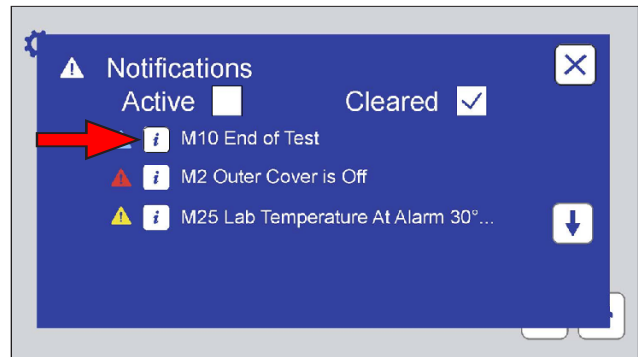
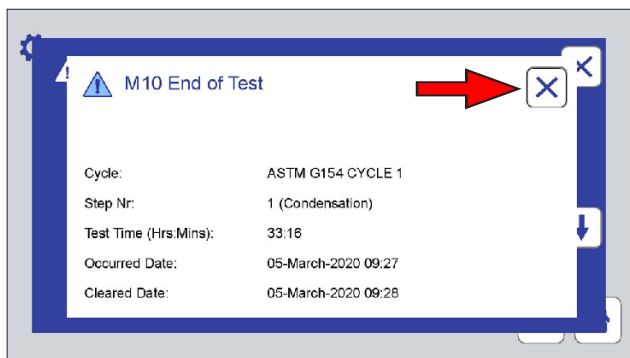

Figure 9.4f: Touch the information icon to display notification details.
Figure 9.4g: Notification details. Touch the Close icon to return to the Notifications Screen.
- Touch the notification information icon to display details (Figure 9.4f and Figure 9.4g).